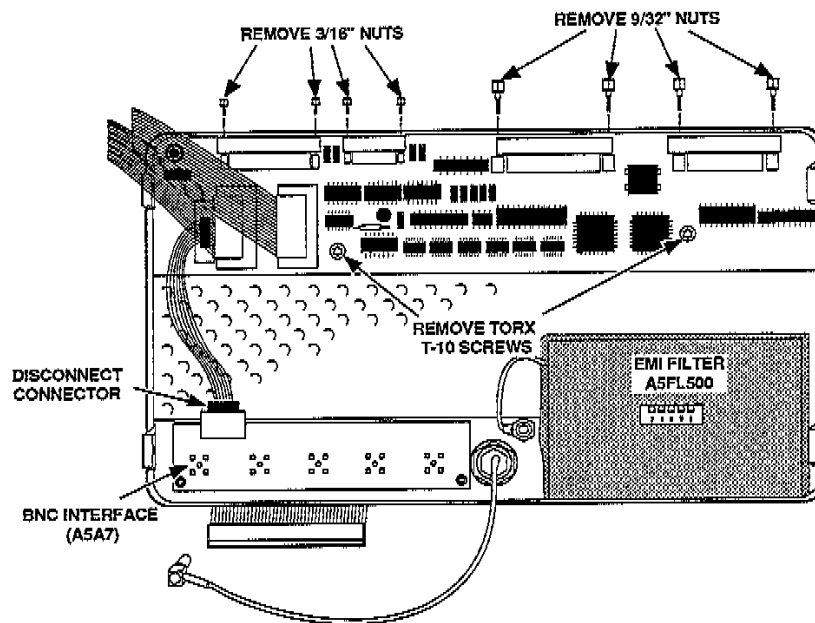

Figure 4-29. Communications Interface removal.
3. Disconnect the multi conductor cable connector from the rear panel BNC Interface board (A5A7). See Figure 4-29.
3. Disconnect the multi conductor cable connector. See Figure 4-29.